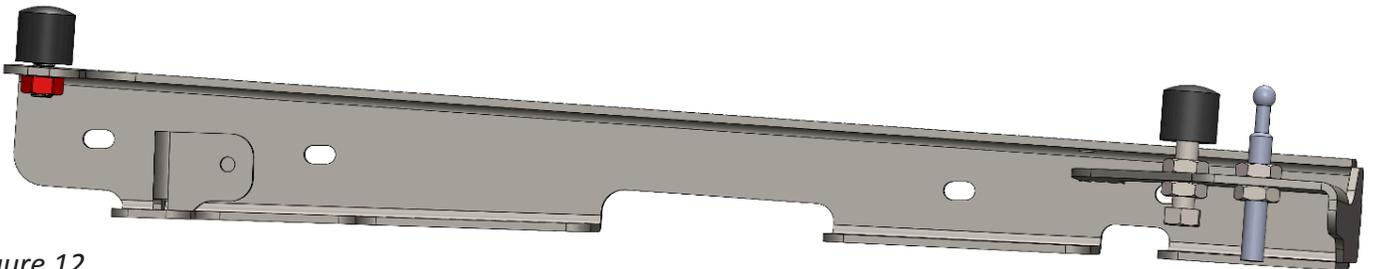

Figure 12
11. Install the ball joint hood latch pins from the 61826 kit into the hood/fender mounting brackets (22773 and 22774) using two 1/2" hex nuts. Loosely install for later adjustment. Install the rear rubber bump stop bolt into the hood/fender mounts. Figure 12